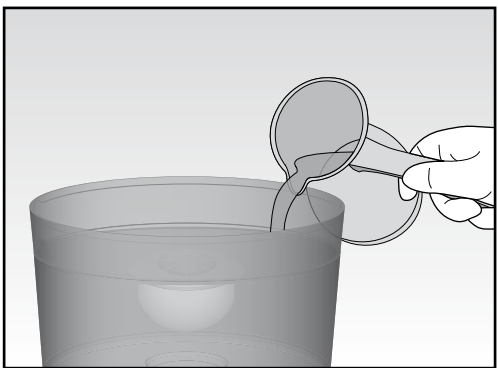

Fig. 6
- Pour clean water into the top tank (G) as far as the "MAX" level on the tank itself (Fig. 6).
- While pouring in the water, place a glass under the dispenser and push the lever (C) back to collect the water. Repeat this operation several times.
- Note:** Press the lever (C) to replace the air in the internal tank (E) with water. This means that when using the appliance for the first time, the water enters the internal circuit of the appliance and after a few seconds it begins to flow completely.
- Sauberes Wasser in den oberen Tank (G) füllen, bis die am Tank befindliche Markierung "MAX" erreicht ist (Abb. 6).
- Beim Einfüllen von Wasser einen Becher unter den Zapfhahn stellen und den Hebel (C) zur Entnahme von Wasser nach hinten drücken. Diesen Vorgang mehrmals wiederholen.